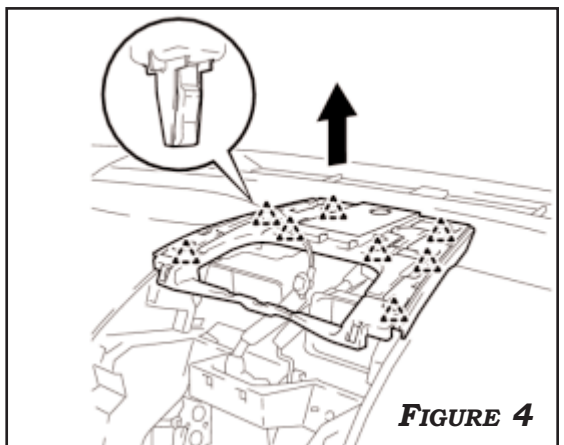

FIGURE 4
4. DISENGAGE THE CLIPS AND DISCONNECT THE CONNECTOR TO REMOVE THE SPEAKER OPENING COVER ASSEMBLY. **FIGURE 4**